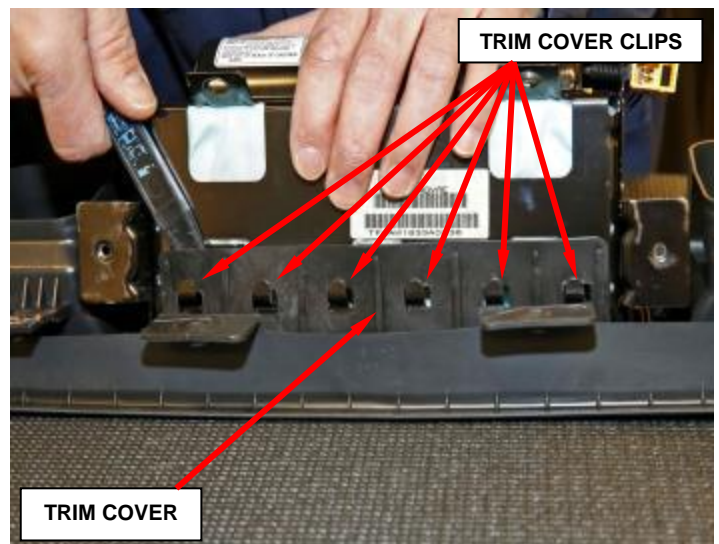

Figure 18 – Trim Cover Clips
b. Disengage the trim cover clips and remove the airbag module from the trim cover (Figure 18).